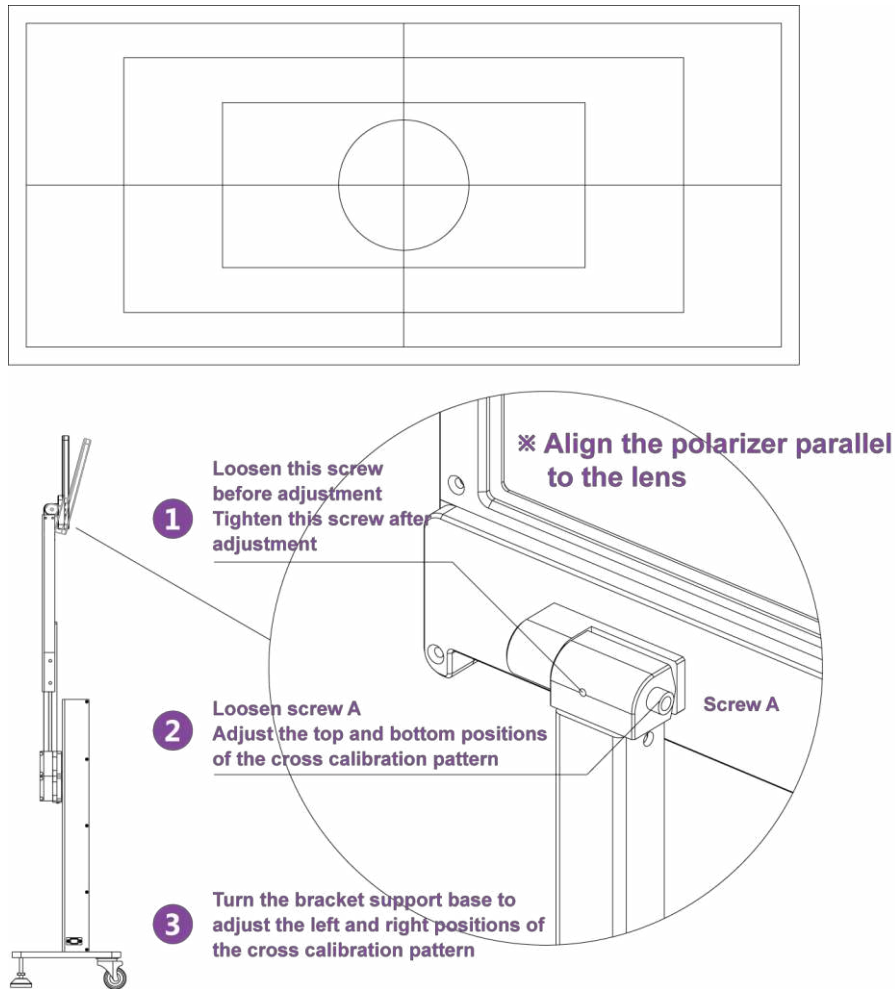

Figure 14: Adjusting the Calibration Pattern
- Loosen the lock screen screw on the back of hinge as indicated in **Figure 14** (refer to Step ①), prior to making any adjustments